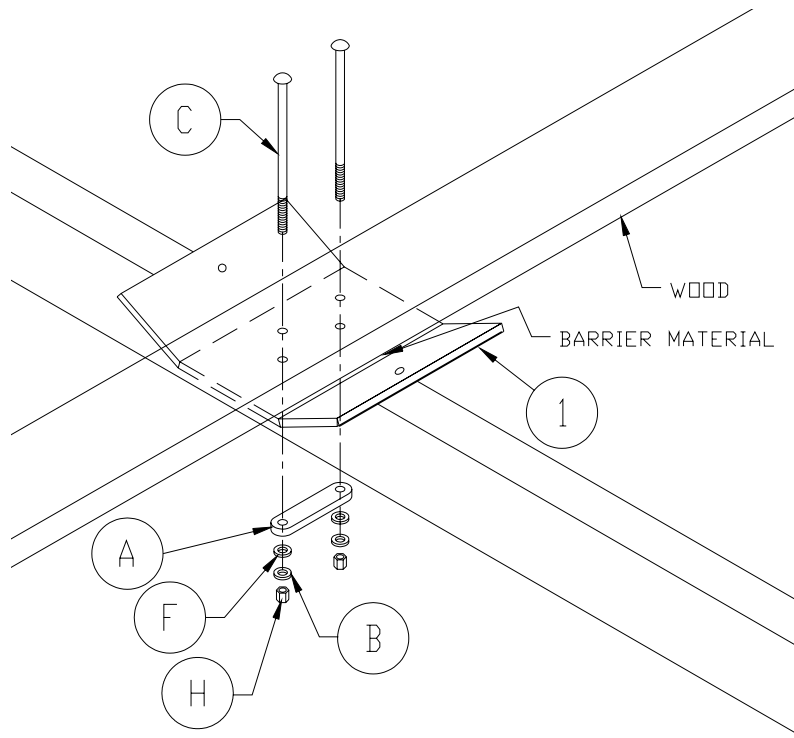

Figure 2-2.
1. **Refer to Figure 2-2.** Using the four cradle mounting plates (1) as templates, mark both hole locations of center section on wood and drill corresponding holes using the 7/16" drill bit. As an option you may wish to countersink the holes so the head of the carriage bolt (C) lies below the surface of the wood. In this instance, countersink 1/4" deep using 1" flat wood bit.
3. Attach the wood and cradle mounting plate onto the load tube by aligning a 2-Hole Plate (A) underneath the tube and fastening with two carriage bolts (C), two flat washers (F), two split-lock washers (B), and two hex nuts (H).